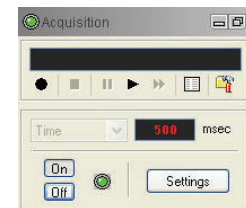

Figure 3-2 Acquisition panel/□
5. ☐ In the **Acquisition** panel (**Figure 3-2**) select the sampling mode (depth or time). Click on **Settings** and specify the corresponding sampling rate. Switch on the sampling (click the **ON** button).